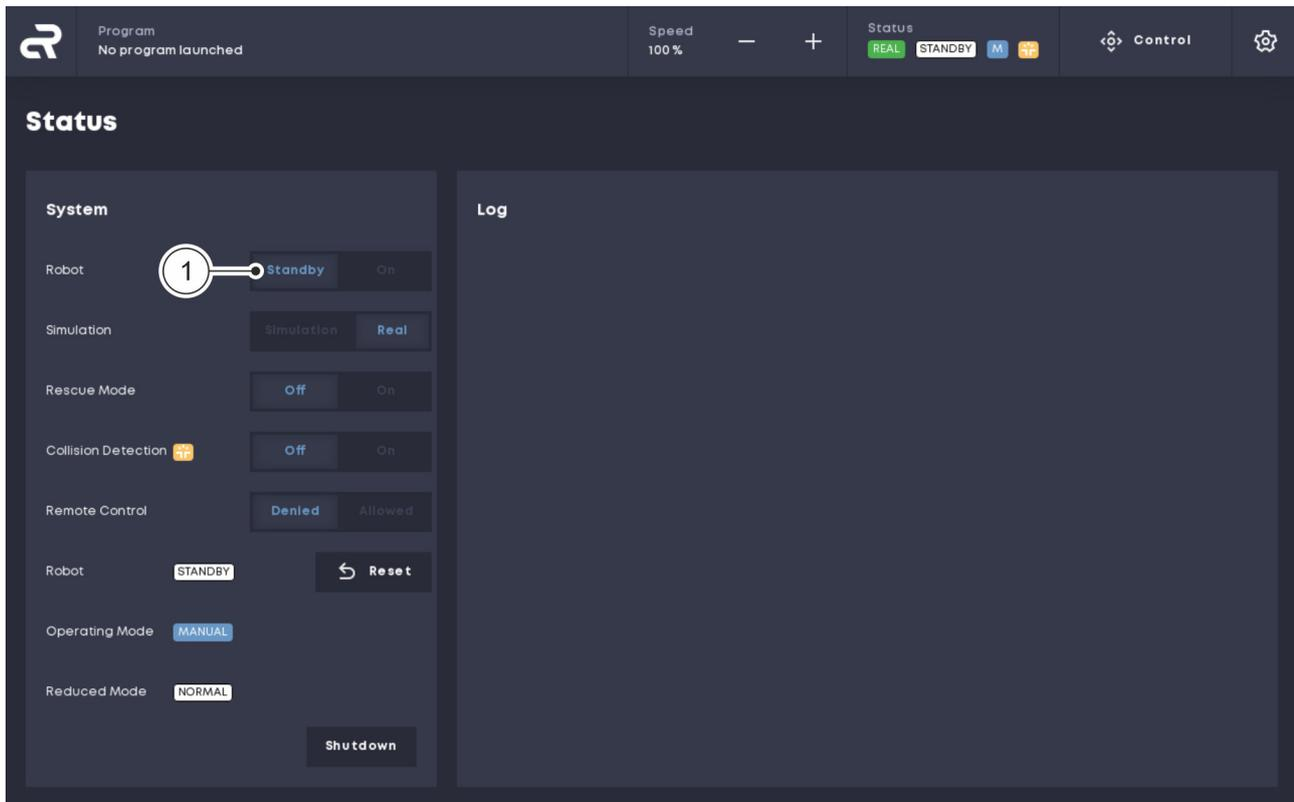

Fig. 18 Setting standby mode
02. In the 'Status' menu, click the 'Standby' button Fig. 18 / ①.